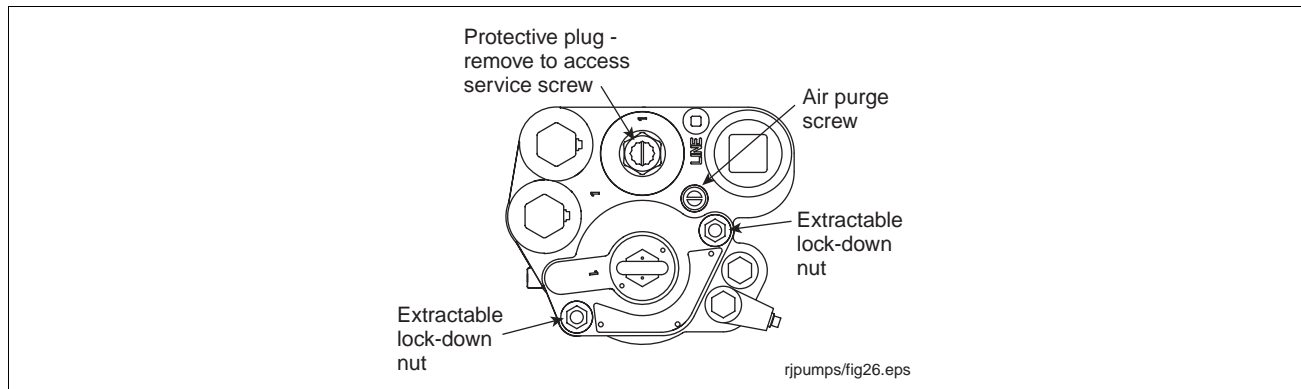

Figure 29. Extractable lock-down nuts
2. Remove the two extractable lock-down nuts (see Figure 29). The springs on the lock-down studs between the extractable's flange and the manifold will push it up, breaking the seals.